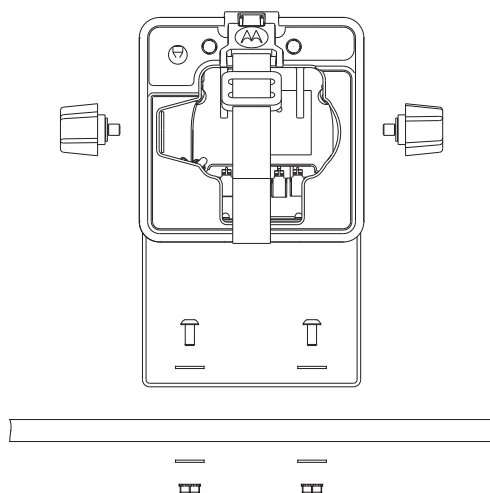

Figure 1 .Installing the Vehicular Charger
4. Referring to Figure 1, mount the bracket using appropriate screws, washers, lock washers, and nuts.
5. Insert the unit into the bracket, and install the washer and threaded knob into the housing, as shown in Figure 1.